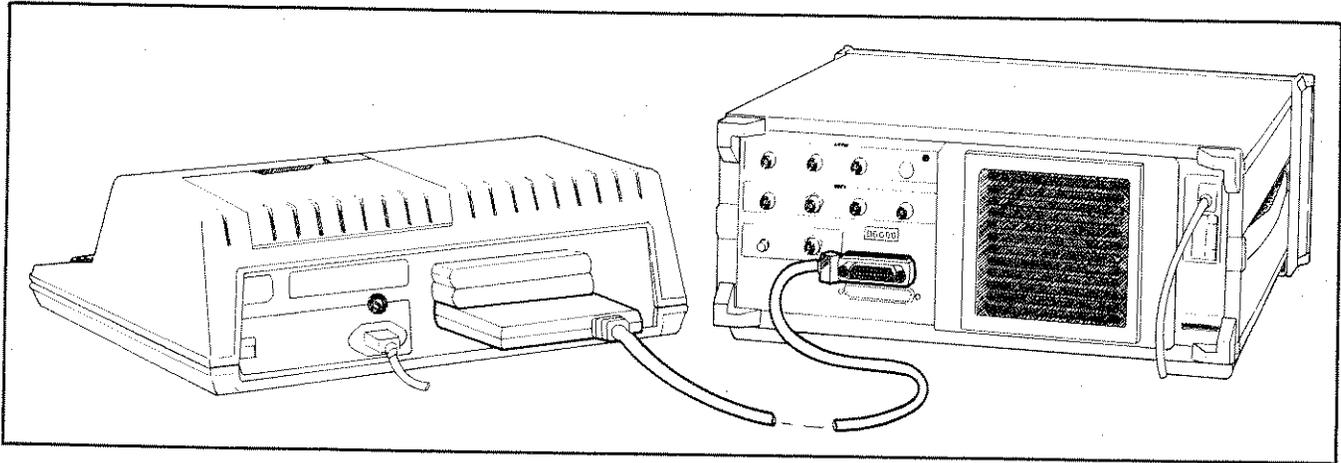

Figure 1. System connection.
Figure 1 shows the system connections. To connect the system as shown, follow these steps:
4. Connect the 24-pin connector at the free end of the 82937A cable to the rear panel of the 8569A (see Figure 1). This connector is shaped to ensure proper orientation.